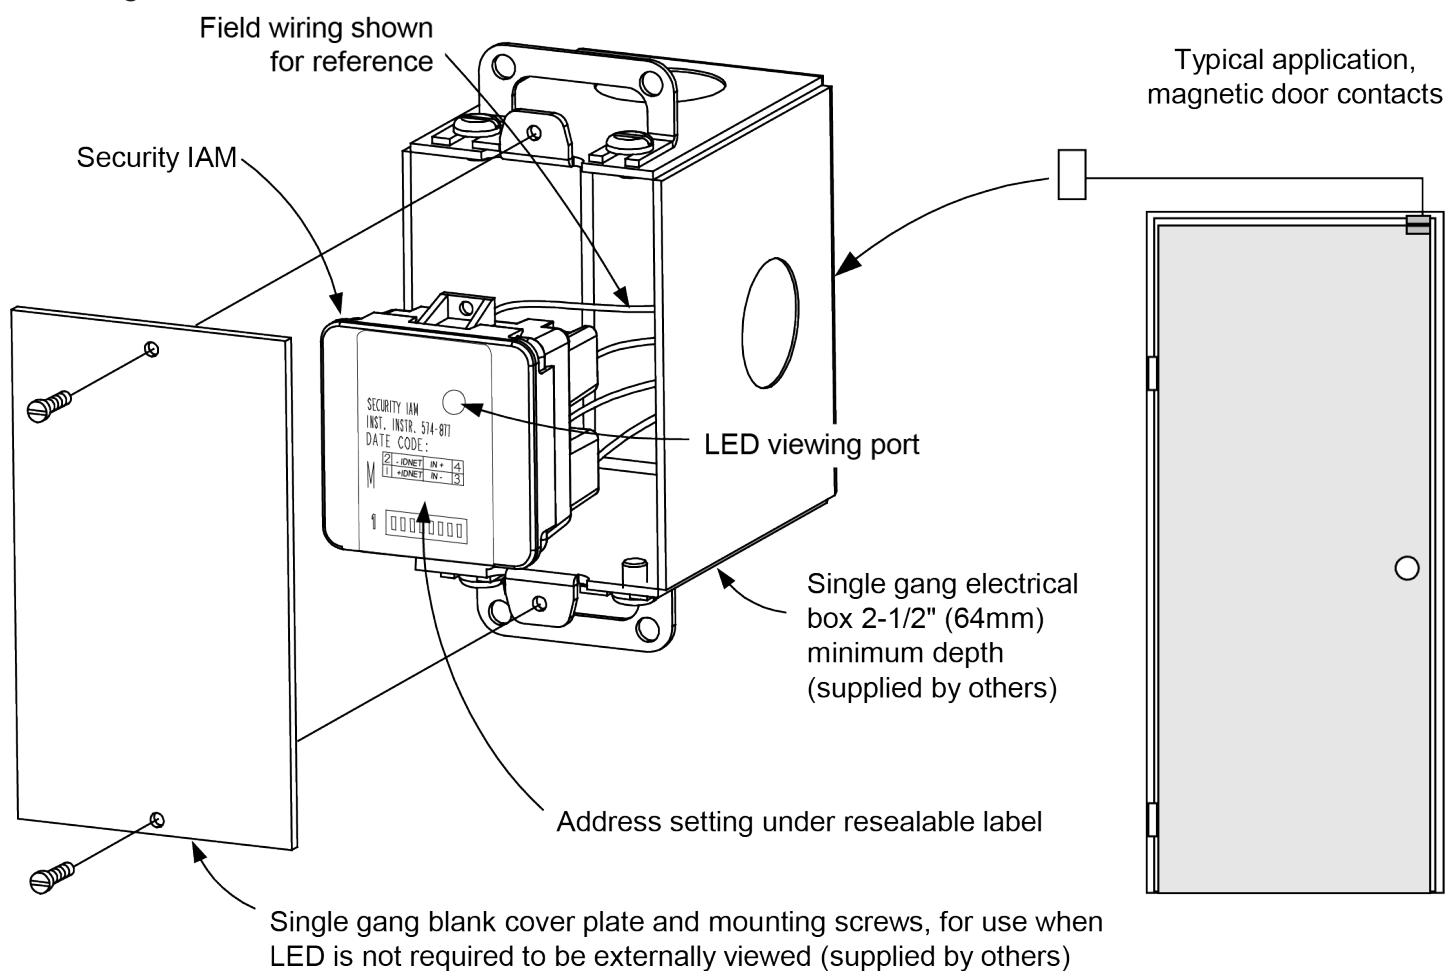

Fig 2: Mounting Reference, Single Gang Blank Cover Plate
**Note:** A4090-9121 Security IAM shown in Figure 2.